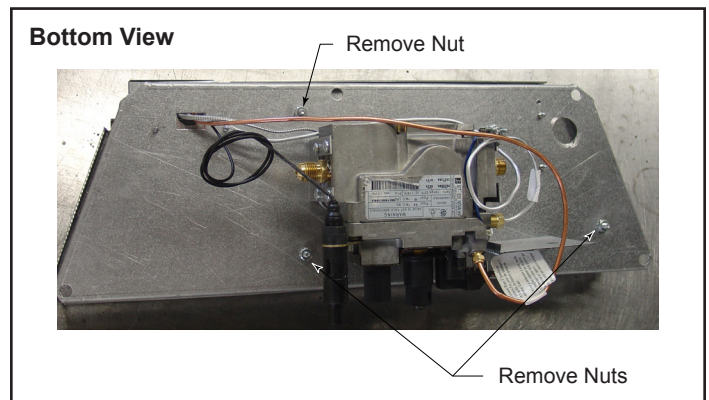

Figure 77 - Remove three (3) nuts securing ember bed in place.
1. Remove three (3) 3/8" nuts on bottom side of burner pan, Figure 77.
2. Thread and tighten 3/8" nuts back onto pem studs on underneath side of control panel, reversing Step 1 shown in Figure 77.